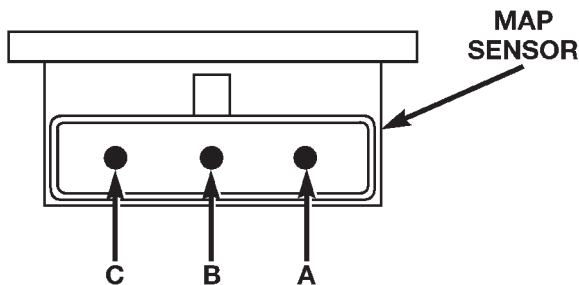

Fig. 49 MAP Sensor Connector Terminals—Typical
(2) Test the MAP sensor output voltage at the MAP sensor connector between terminals A and B (Fig. 49). With the ignition switch ON and the engine OFF, output voltage should be 4-to-5 volts. The voltage should drop to 1.5-to-2.1 volts with a hot, neutral idle speed condition.
(3) Test powertrain control module (PCM) cavity A-27 for the same voltage described above to verify the wire harness condition. Repair as necessary.
(4) Test MAP sensor supply voltage at sensor connector between terminals A and C (Fig. 49) with the ignition ON. The voltage should be approximately 5 volts ($\pm 0.5V$). Five volts ($\pm 0.5V$) should also be at cavity A-17 of the PCM wire harness connector. Repair or replace the wire harness as necessary.
(5) Test the MAP sensor ground circuit at sensor connector terminal—A (Fig. 49) and PCM connector A-4. Repair the wire harness if necessary.